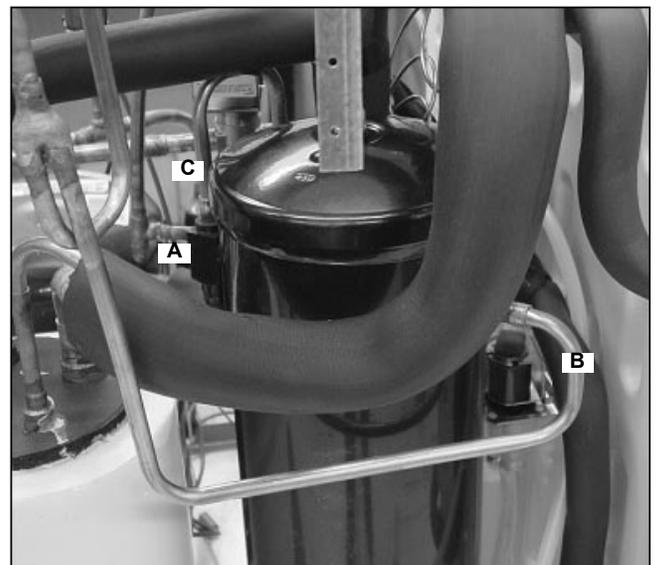

Figure 38.
Braze the Liquid Line with Filter Drier to the receiver outlet (C) (Figure 38).